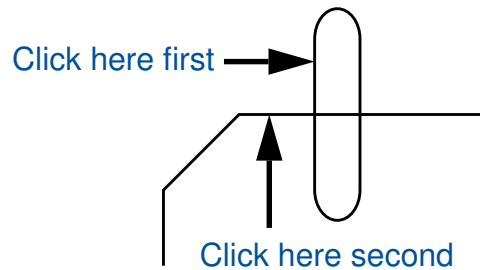

Figure 2-33. Trimming One Line of the Slot
4. Choose the **[Shapes] Trim** menu item. When the prompt bar displays, place the cursor on the left vertical line of the slot, above the horizontal board outline, and click the Select mouse button. Next, place the cursor on the horizontal board outline, and click the Select mouse button again. Refer to Figure 2-33.